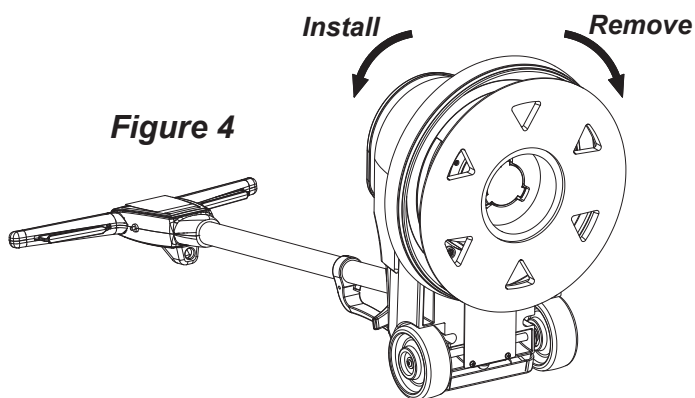

Figure 4
4. Put one foot on each side of the machine (see Figure 4).